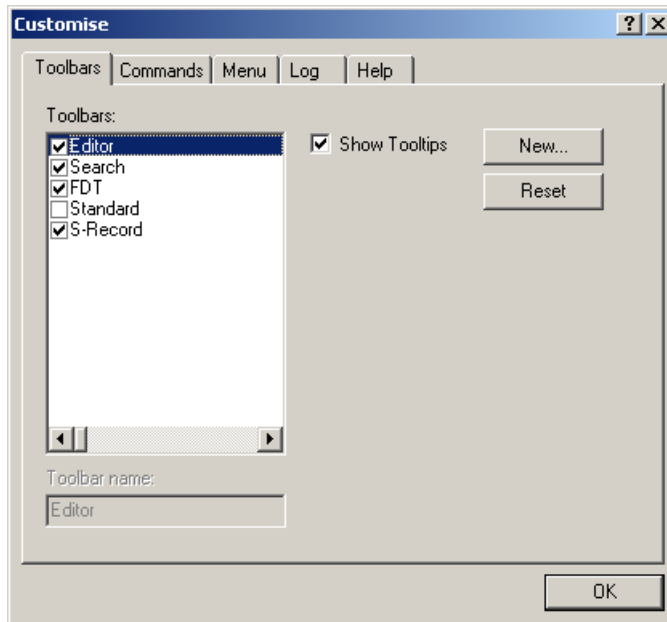

Figure 6-19 Customise Toolbars Dialog
1. Select [**Tools->Customise...**]. The dialog shown in Figure 6-19 will be displayed. Select the “Menu” tab.